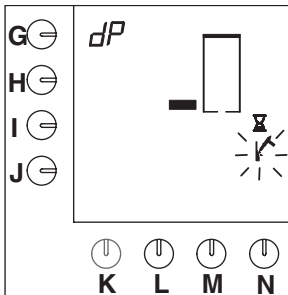

Fig. 25 Pause for interaction of the descaler
- When the water is hot, a sandglass and a flashing hammer symbol appears on the display (fig.25). A 5 minutes waiting time follows to let the renegite do its job.